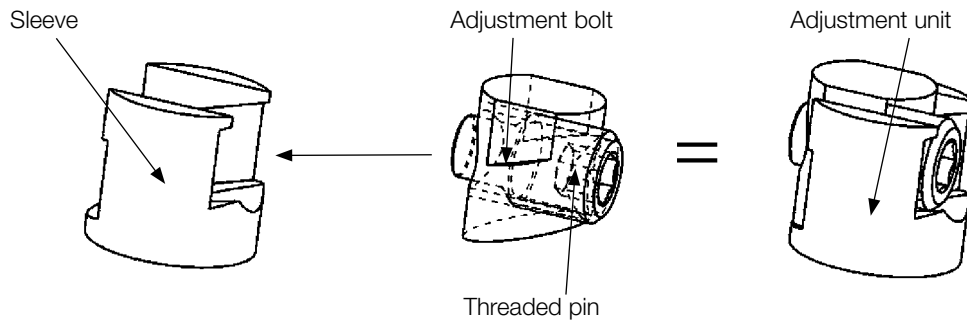

FIG. 1
- Screw the threaded pin into the adjustment bolt (from flat side) and insert into the sleeve (note correct side) (fig. 1).